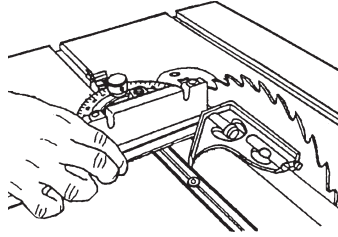

Figure 58
2. Put the Miter Gauge in the Right Slot and place the Combination Square against the Saw Blade and Miter Gauge Face, as seen in Figure 58.